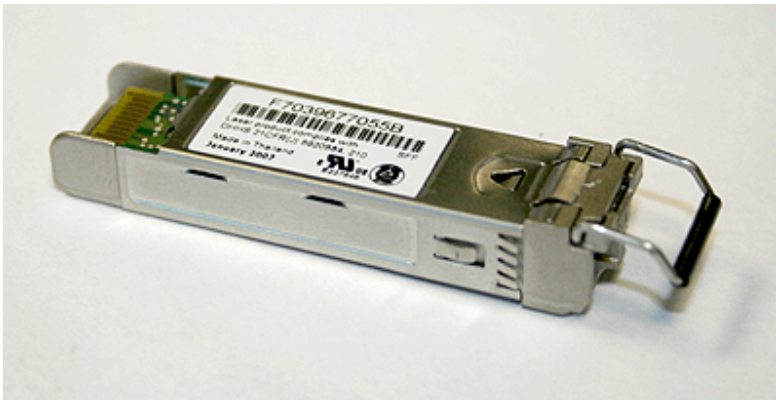

Figure 175. Fibre-channel SFP transceiver
6. Remove the four SFP transceivers from the adapter. To do this, unclip the release handle shown in Figure 175 and then use the handle to pull out each SFP transceiver.